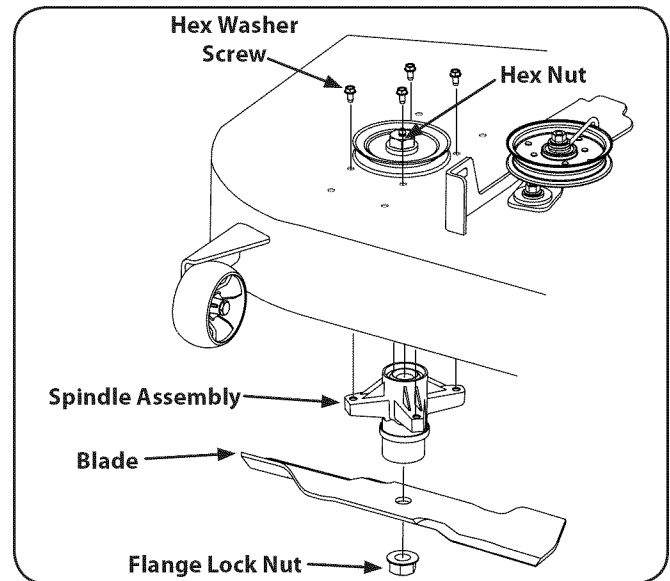

Figure 7-10
2. Use a $\frac{3}{4}$ " wrench to hold the hex nut on top of the spindle assembly when loosening the hex nut securing the blade. See Fig. 7-10.
2. Remove the hex washer screws securing the belt covers to the deck and remove the belt from the spindle pulleys. Refer to Fig. 7-10.